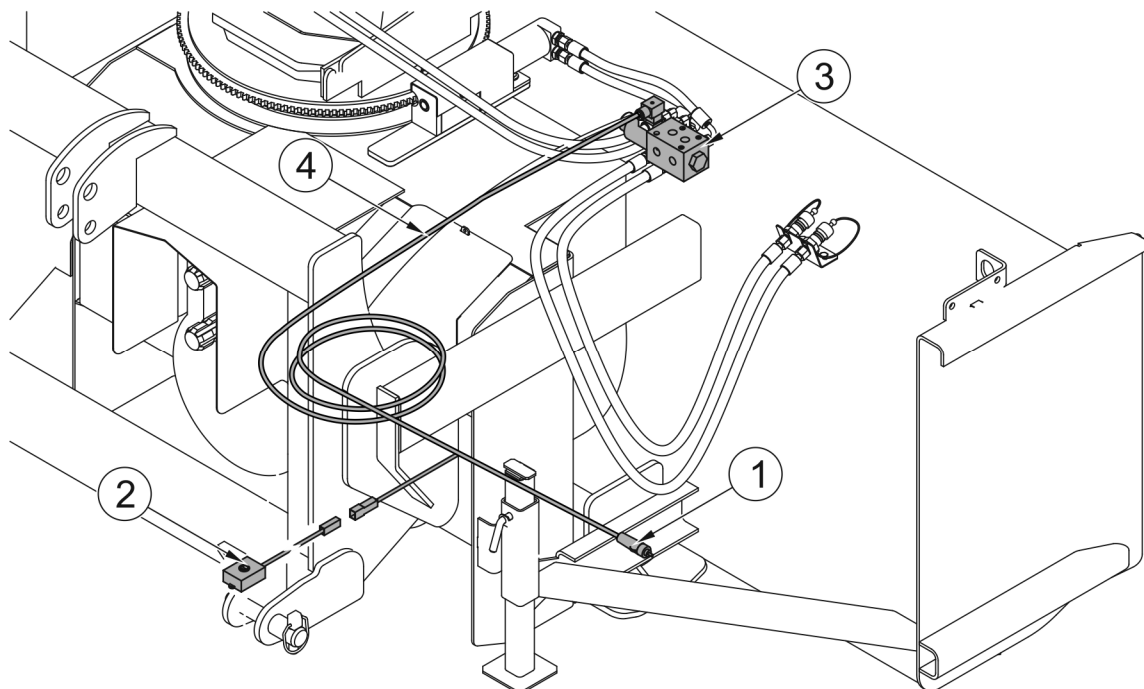

FIG. 3.5 Electrical system design
(1) - lighter socket plug; (2) - switch; (3) - solenoid valve; (4) - wiring harness
Snow blower electrical system (FIG. 3.5) consists of a lead (4) terminated with a plug (1) and a switch (2), which is used for switching on the discharge chute control hydraulic solenoid valve. After connecting plug (1) to cigarette lighter socket, switch (2) enables switching from hydraulic rotation control to raising and lowering of the discharge chute.